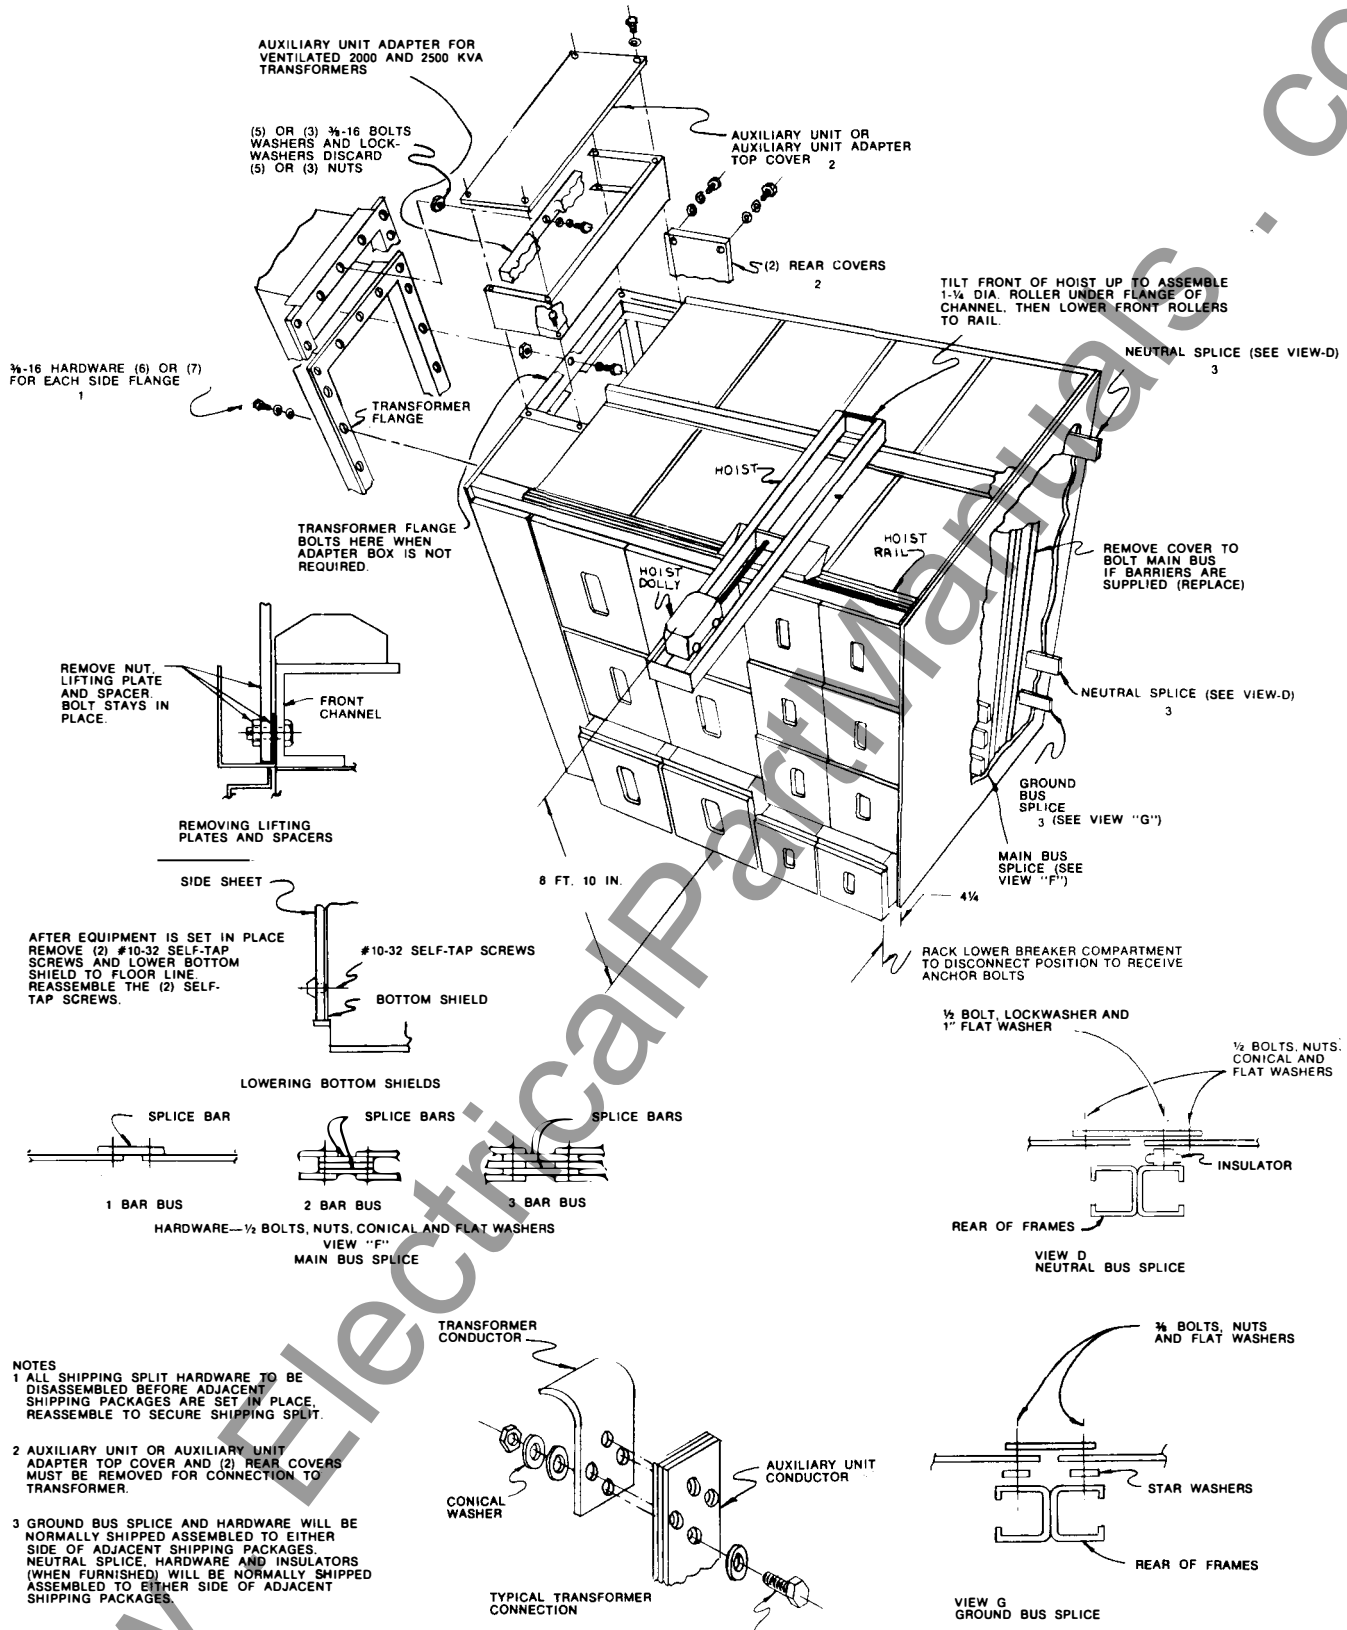

FIG. 13 (0673D0500-265) Assembly of Indoor Equipment
4. Bolt the main buses, ground buses, and neutral buses of adjacent shipping packages together using the splice bars furnished with the equipment. See Figure 13 and 14 for details of splice bar connections. The ground bus is mounted directly on the rear upright channels. It is particularly important that this bus be connected since it provides an integral ground for all the equipment that should
be connected to the station ground. Neutral buses are mounted on molded insulators that are attached to the rear upright channels. If a transformer is present in the lineup, make the necessary connections from the equipment to the flexible connectors furnished with the transformer as shown in Figures 13 and 14. Connection hardware is supplied with the equipment. The ground connection bar in the bus entrance compartment will be shipped turned in. This bar should be reassembled in the correct position and connected at the offset portion to the transformer ground pad with a $\frac{1}{2}$ inch bolt. Consult transformer instructions for proper connection procedure.